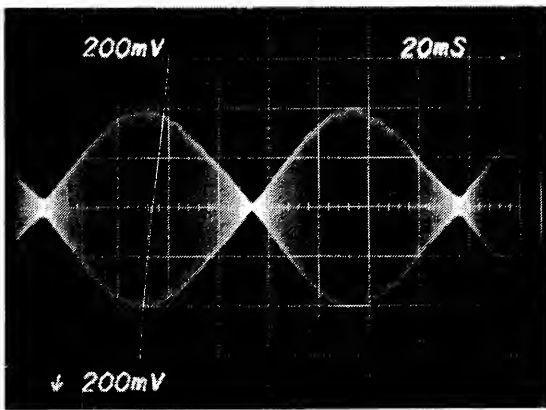

FIGURE 12 HEAD RADIAL ALIGNMENT
e. The two lobes must be within 70% amplitude of each other. If the lobes do not fall within the specification, continue on with the procedure. Reference Figure 12.
h. When the lobes are of equal amplitude, tighten the motor mounting screws. Reference Fig. 12.